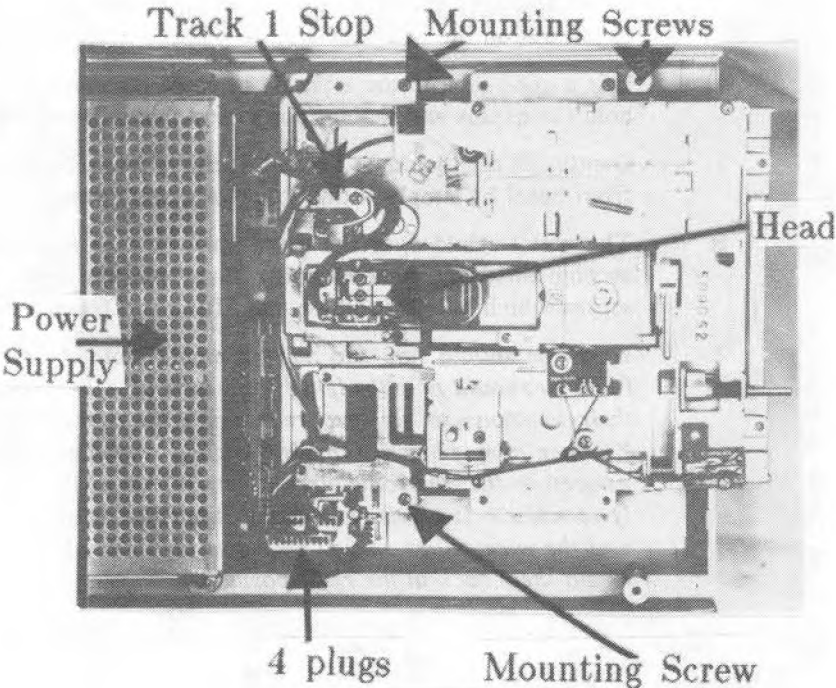

Figure 1
6. The metal shield over the drive must now be removed. This is accomplished by removing the three phillips head (threaded) screws which hold it in place, and lifting it off. (see FIG.1)
7. Now you should stop and make a mental note of several things: *(1) You should note the length and type of screws removed and their locations so you can reassemble the drive properly. (2) You are now going to remove the plugs which connect the drive proper to the electronic circuit board. These MUST be properly identified. It is wise to make a small sketch of their locations and the wire colors so you will have no doubt about your ability to put them back in the right position.*
8. Again referring to FIG. 1, remove the four small plugs at the left rear corner of the drive proper. Also remove the R/W plug which is on the right side at the rear of the drive proper. This plug is laying flat against the circuit board slightly under the power supply. Use a pair of long nose pliers to reach this plug. Remove the screw holding two ground braids.
18. If the results seem to indicate that there is a problem with the "HEAD PRESSURE", (see **TYPICAL SCREEN DISPLAY #11**), you may want to examine the head pressure spring, (see **FIG.1**). The head pressure can be adjusted by bending this spring. You should be certain that this is the problem before you do so. A one cent piece taped to the top of the head is a good way to determine whether increading head pressure will be effective. If this is the case, use a pair of long nose pliers to bend the spring slightly. *Do not overdo it* since increased head pressure means more wear and tear on the diskette and the record head. You may also want to try cleaning the head with alcohol or one of the head cleaning kits available.
FIGURE 1. shows the Track "1" STOP. This flat metal part is mounted by means of two phillips head screws as seen in the photograph. Adjustments are made by loosening both of the two screws and sliding the part toward the front or rear of the unit depending on the appearance of the display after running the alignment option: